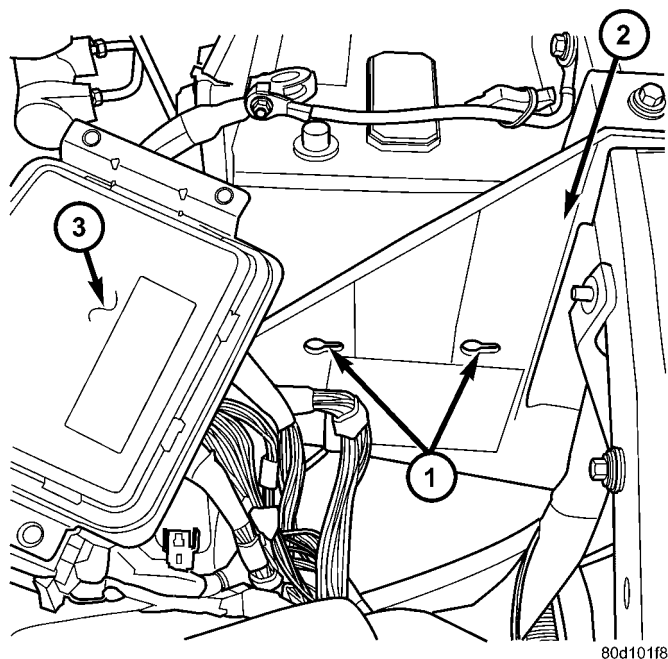

Fig. 5 INTEGRATED POWER MODULE MOUNTING TABS
(4) Grasp the integrated power module with two hands and install the assembly on the battery tray (Fig. 5).
(5) Install the integrated power module retaining bolt and screw.
(6) Connect the gray connector on the integrated power module housing.
(7) Install the B+ terminal cable and nut on the integrated power module B+ terminal. Snap the cover in place.
(8) Connect the negative and positive battery cables.